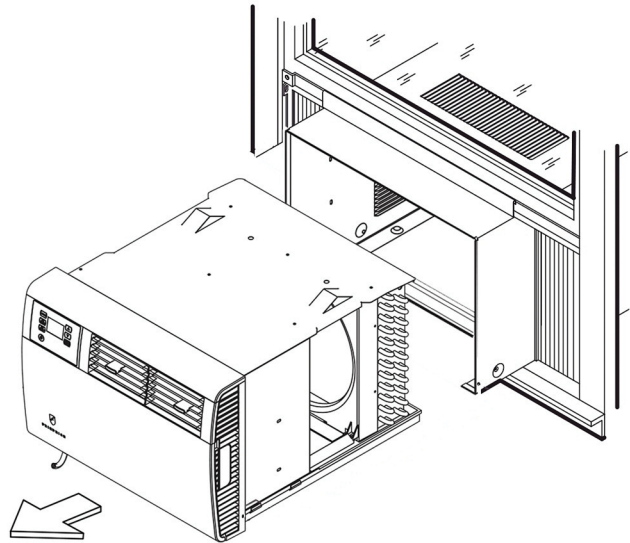

Figure 427 (Remove Chassis)
1. Carefully team lift the chassis and set it into the cabinet. (Refer to Figure 427)